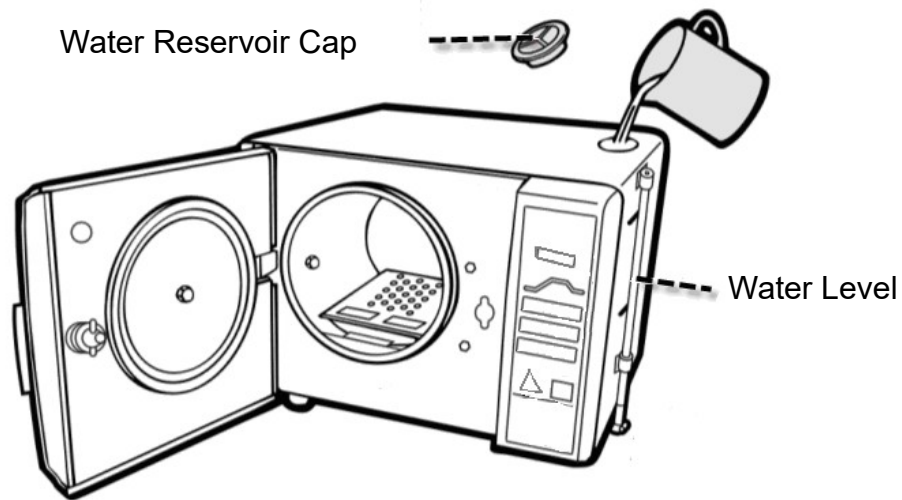

Figure 24
- A. Open the water reservoir cap; pour water for sterilization or distilled water into the water reservoir as shown in Figure 24